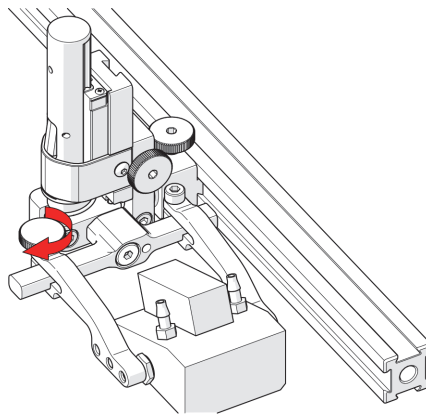

Figure 2-76 Tighten arm knob
3. Tighten the probe holder arm adjustment knob (see Figure 2-76 on page 98).